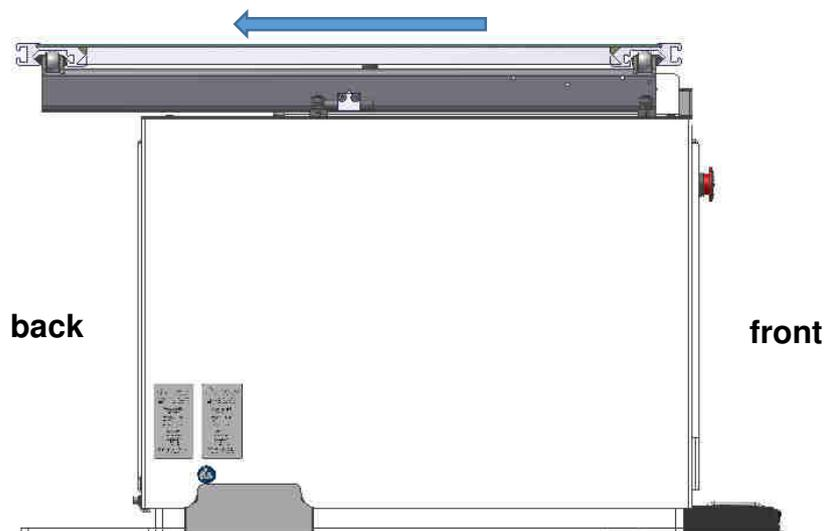

Figure 4-1
**If the pick-up table must be operated while seated, it is essential to ensure that the table top is positioned at the rear (see Fig. 4-1).**